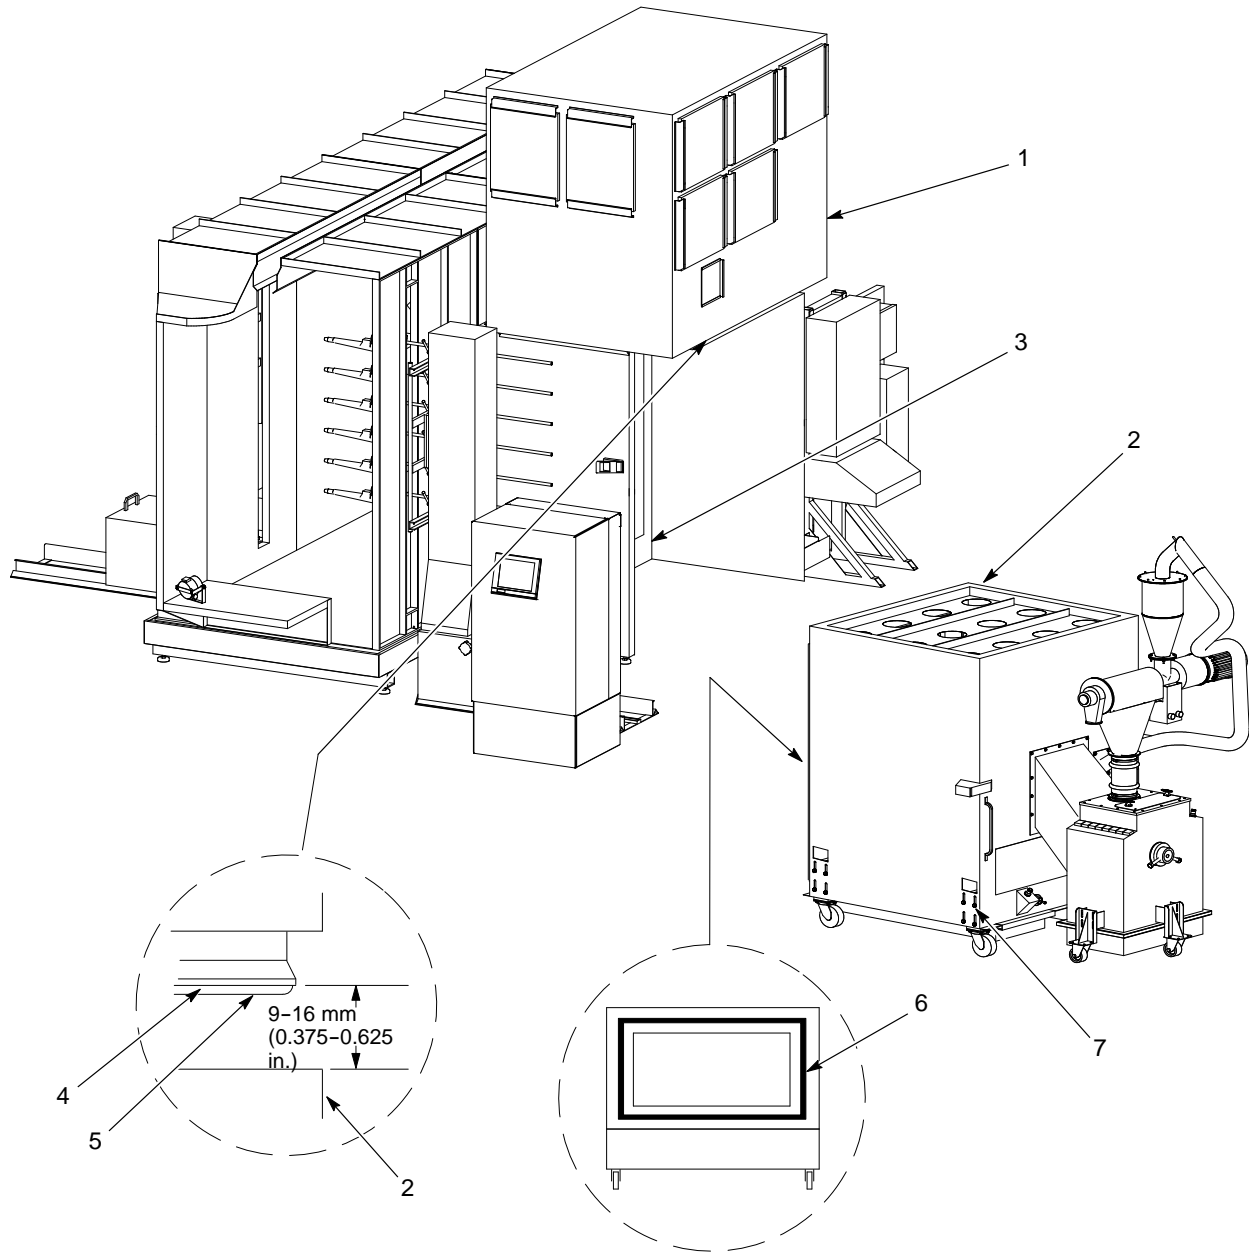

Figure 3-4 Installing a New Color Module and Feed Hopper; Steps 1-5
1. See Figure 3-4. Thoroughly clean the powder off the inlet frame (3) and surrounding area.